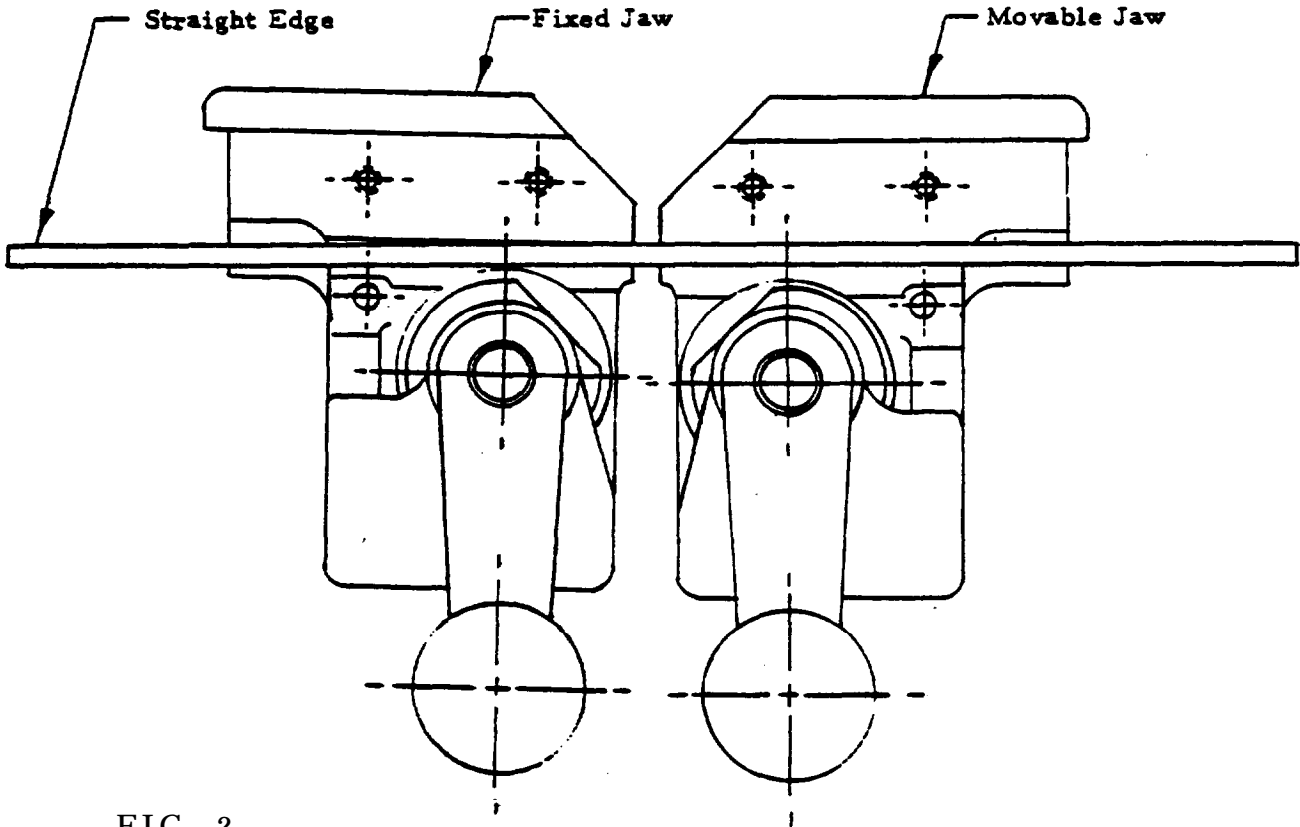

FIG. 2
2. Fig. 2 is an example of inclination misalignment as checked with a straight edge. The fixed jaw must be moved to correct this problem. Loosen the mounting screws and move the jaw required. The mounting screws are located inside the welder case - behind the fixed jaw.